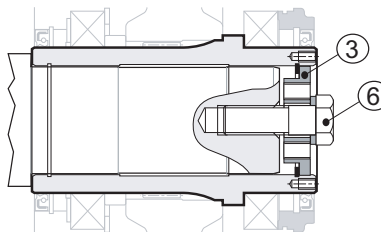

Fig. 13
unscrew the threaded rod nut (pos. 4) and take it out of its seat. Replace the rod (pos. 4) with screw (pos. 6), torquing it down fully to the torque value shown in the Table 4: Tightening torques (p. 19), using an intermediate threadlocker (see Fig. 13 (p. 25)).